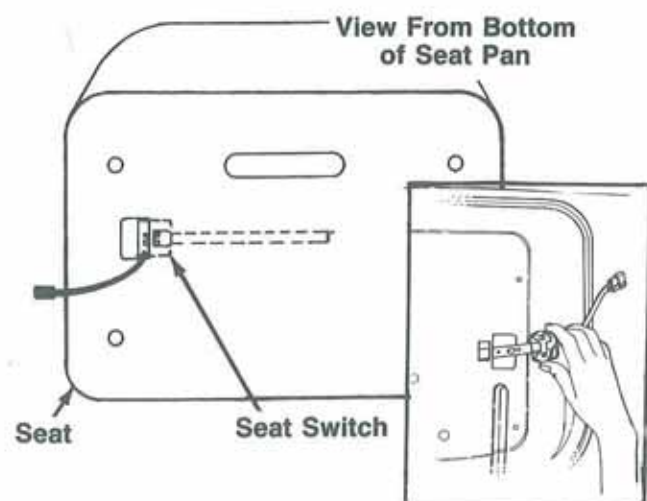

FIGURE 14.
- Insert beam switch assembly into the bottom of the seat as shown in figure 14.